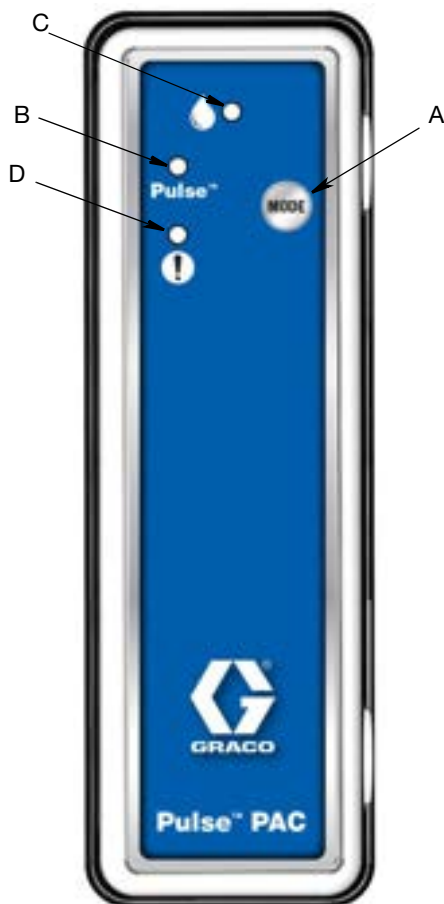
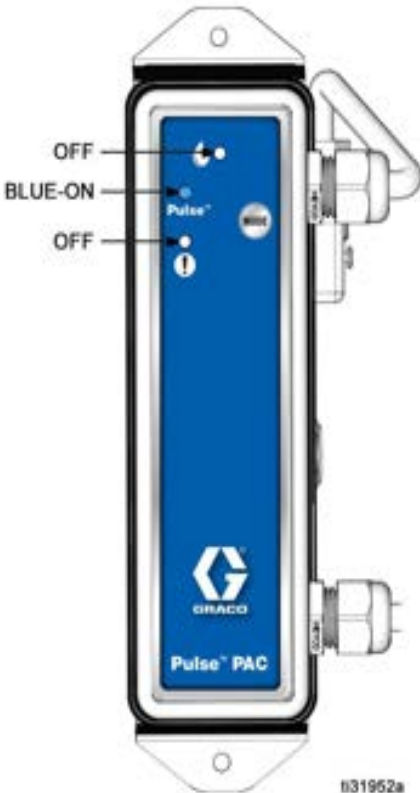
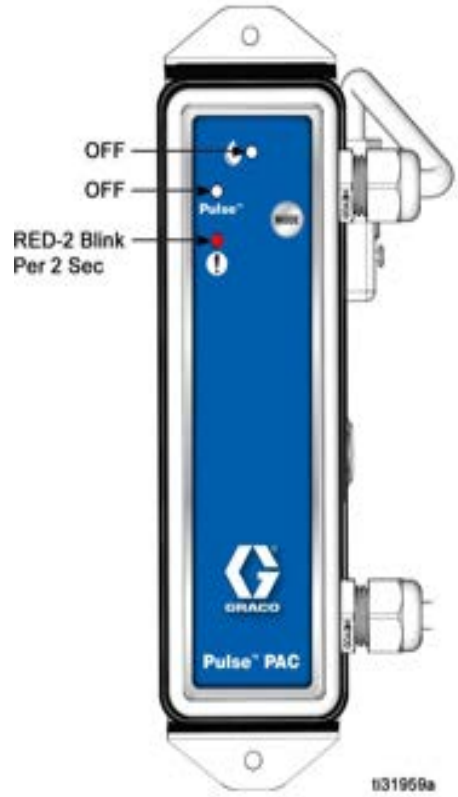

FIG. 13
FIG. 16
FIG. 23
3. Connect power to the PAC. (Red light (D) turns on.) Wait 30 seconds. (Blue light (B) turns on.) (FIG. 13)
4. On the PAC, press and hold the Mode button (A) for 5 seconds (FIG. 13). (Green light (C) turns on. Blue light (B) and Red light (D) turn off.)
5. Press and hold the Mode button (A) again for 5 seconds, then release (FIG. 13). (Green light (C) stays on. Blue light (B) and Red light (D) turn on.)
6. Wait 5 to 10 seconds. (Green light (C) turns off. Blue light (B) starts flashing. Red light (D) stays on.)
7. When the Blue light (B) stops flashing and turns solid blue, the PAC registration sequence is complete (1 to 3 minutes) (FIG. 13). (Red light (D) stays on.)
9. Wait 1 to 3 minutes for the Red light (D) to turn off. PAC is now configured.
- In the Pulse (preferred) (FIG. 16) mode, the pump will not operate unless it receives authorization from the Pulse software.
Press and hold MODE button (A) for 5 seconds (FIG. 13) to select Pulse or Work Off Line mode.
NOTE: See **Pulse Mode, No Errors** (FIG. 16, page 12) and **Work Off Line Mode, No Errors**, FIG. 19, page 13).
LEDs on the PAC illuminate and/or flash to report the status or error code of the PAC. Refer to FIG. 16 - FIG. 23 to determine the PAC status.